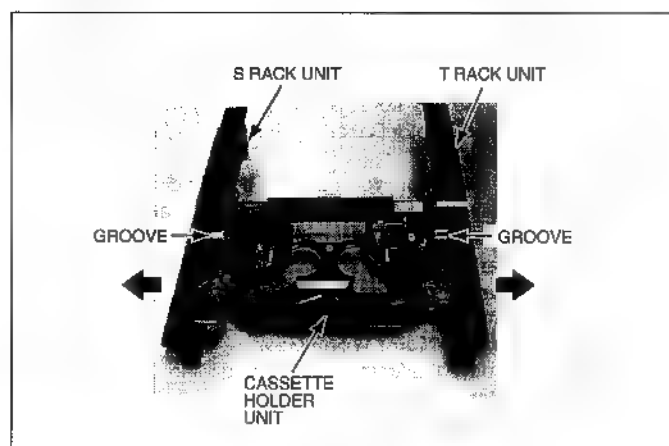

Fig. T-9
- Fig. T-9 Slightly open the S and T Rack Unit and slowly remove the Cassette Holder from the Groove on the S and T Rack Unit.